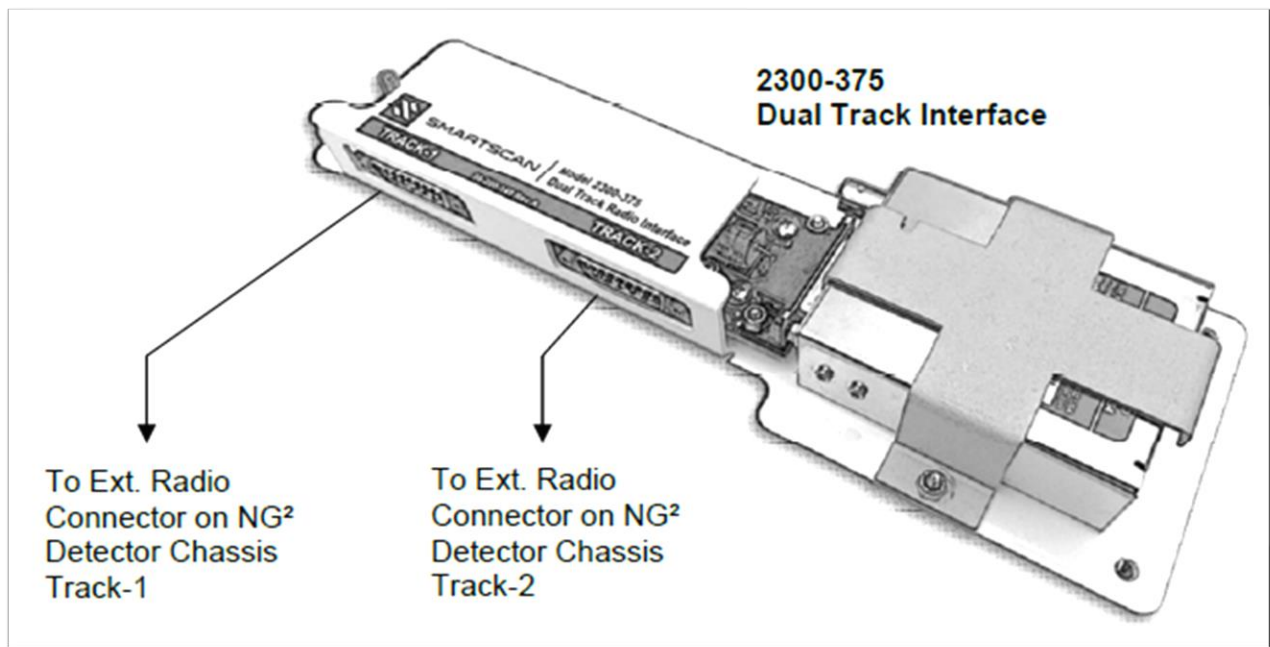

Figure 1 - Model 2300-373 Dual-Track Radio Interface with Ritron DTX-160 installed
3. Install one of the Ritron radios on the 2300-375 mounting bracket, as shown in Figure 1. Set aside the remaining radio as a spare.
Figure 1 shows the Model 2300-375 Dual Track Interface with the Ritron DTX-160 radio installed. Alternatively, you may use a radio of a different type by removing the Ritron DTX-160 and connecting a radio interface cable from the DSUB-15 connector of the Dual-Track Radio Interface to your radio, which provides the following connections.